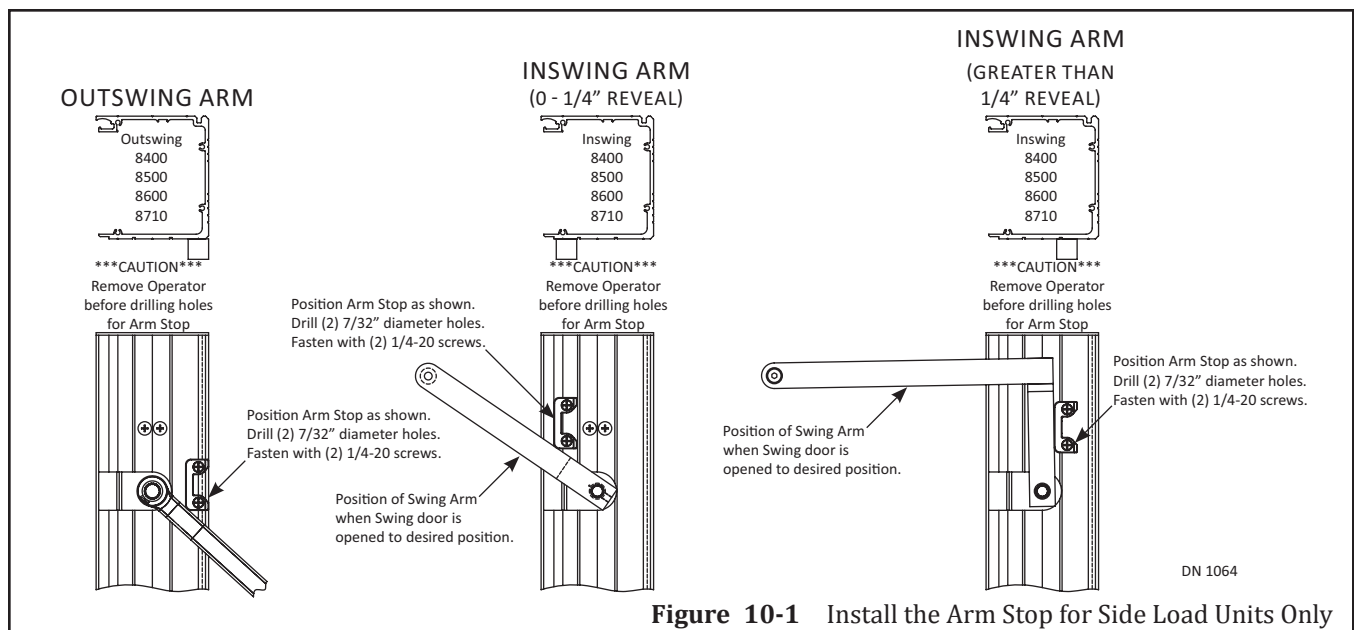

Figure 10-1 Install the Arm Stop for Side Load Units Only
2. Obtain the Parts Bag that includes (1) Arm Stop and (2) 1/4-20 inch Self Tapping screws.
3. Position the Arm Stop at the bottom of Header according to type of Swing Arm and Reveal shown in Figure 10-1.
4. Use the Arm Stop as a template to mark and drill (2) 7/32 inch diameter screw holes.
5. Secure the Arm Stop with (2) 1/4-20 inch Self Tapping screws.